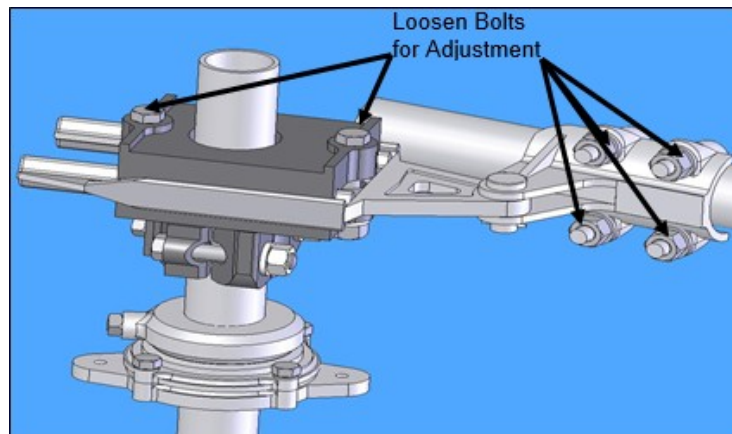

Figure 17: Adjustable Arm Assembly
- 4.3 If the switch **does not** fully open before the operator reaches the fully open position, the adjustable arm radius is too short. Close the switch, match-mark the adjustable arm and the pipe clevis, and loosen the bolts on the adjustable arm and pipe clevis. ***Lengthen the adjustable radius arm approximately 1/4". Allow the pipe clevis to reposition itself the same 1/4".*** Refer to **Figure 17**. Test operation and readjust as necessary.